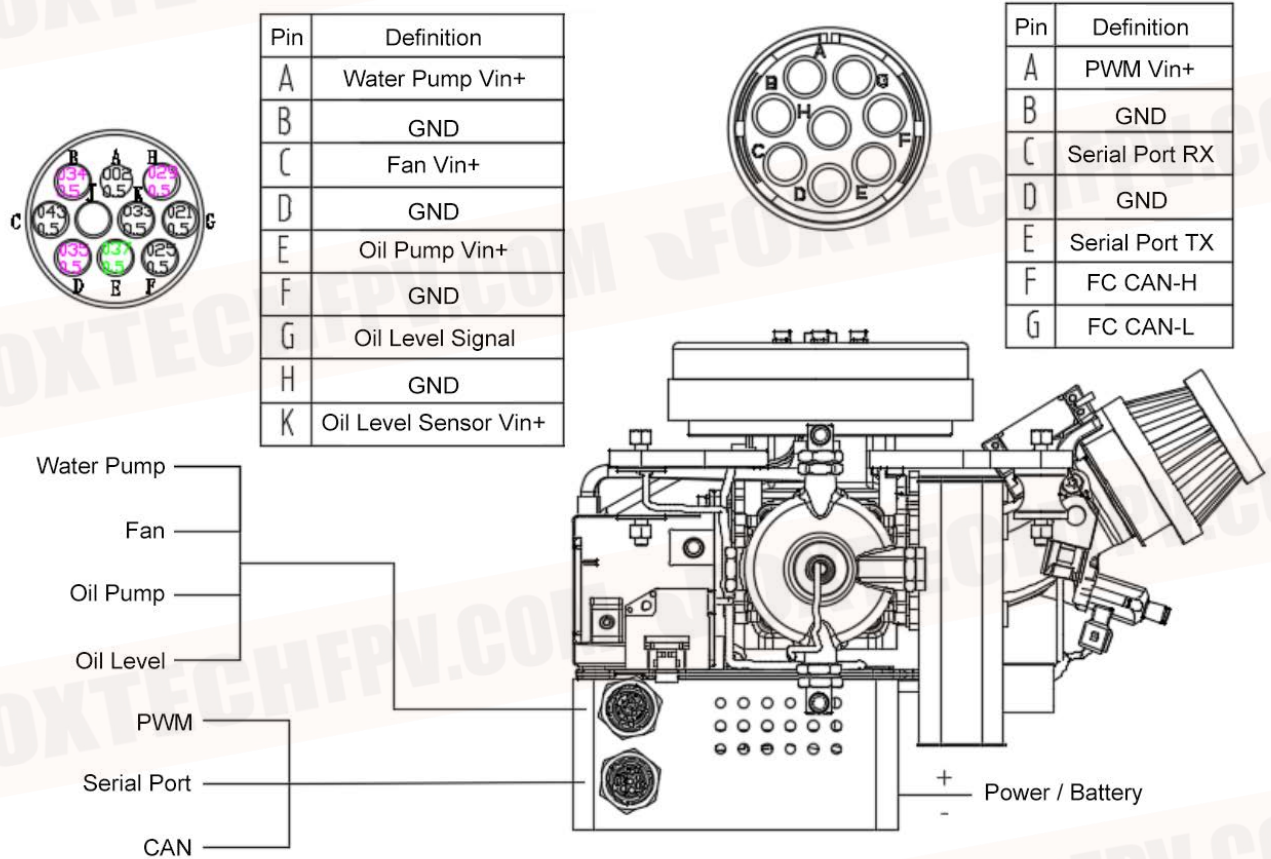
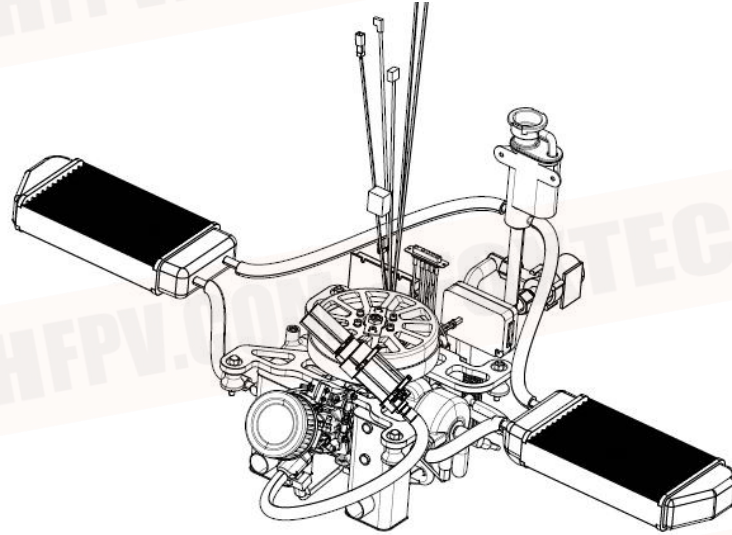

Fig. 1
Fig. 2
Please wire in strict accordance with Fig. 1 and Fig. 2. If the connection is wrong, the system components may be damaged.
1. Halo-6000 is configured as shown in Fig. 2: